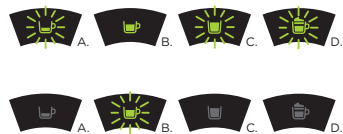

Fig. 17: Programming the long coffee extraction button.
- Then press the long coffee extraction button until the indicator lights of the espresso, the tea and milk-based beverage extraction buttons start blinking. Press the long coffee extraction button (see **Fig. 17**). The indicator lights of the espresso, the tea and milk-based beverage extraction buttons go out.